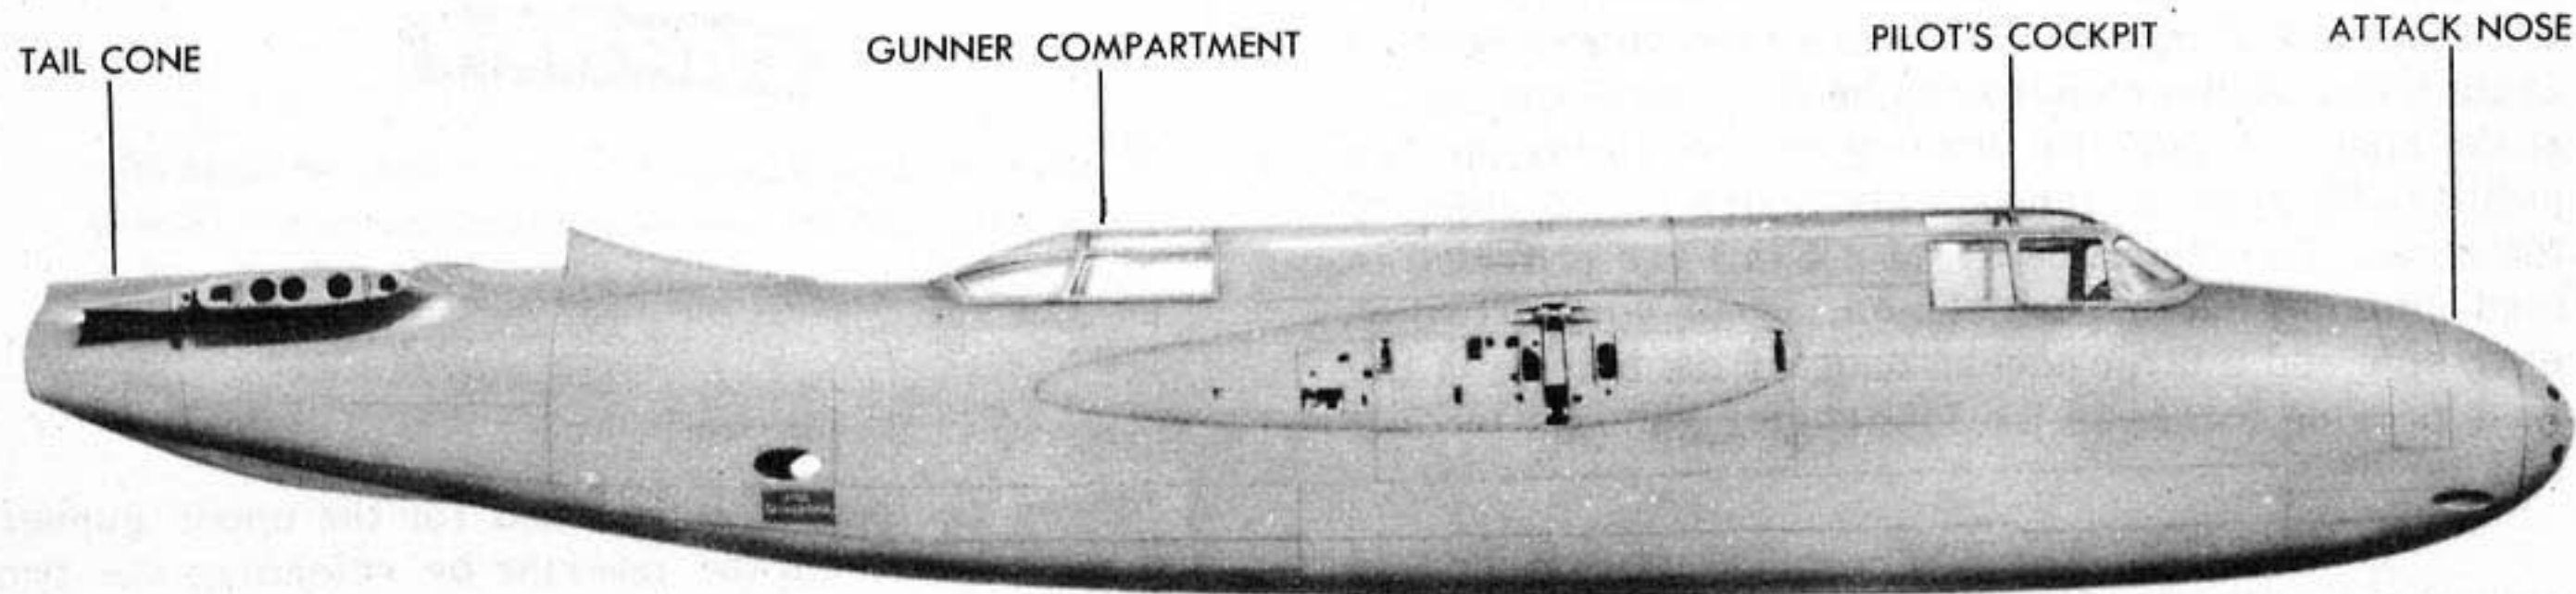

Figure 48 - FUSELAGE
(1) GENERAL. (See figure 48.) - The fuselage is an all-metal semi-monocoque structure made up of formed alclad sheet frames, extruded aluminum alloy longitudinals, and an alclad covering. It has five divisions: attack nose, pilot's cockpit, bomb bay, gunners' compartment, and tail compartment. The skin is attached to the frames and longitudinals with rivets.